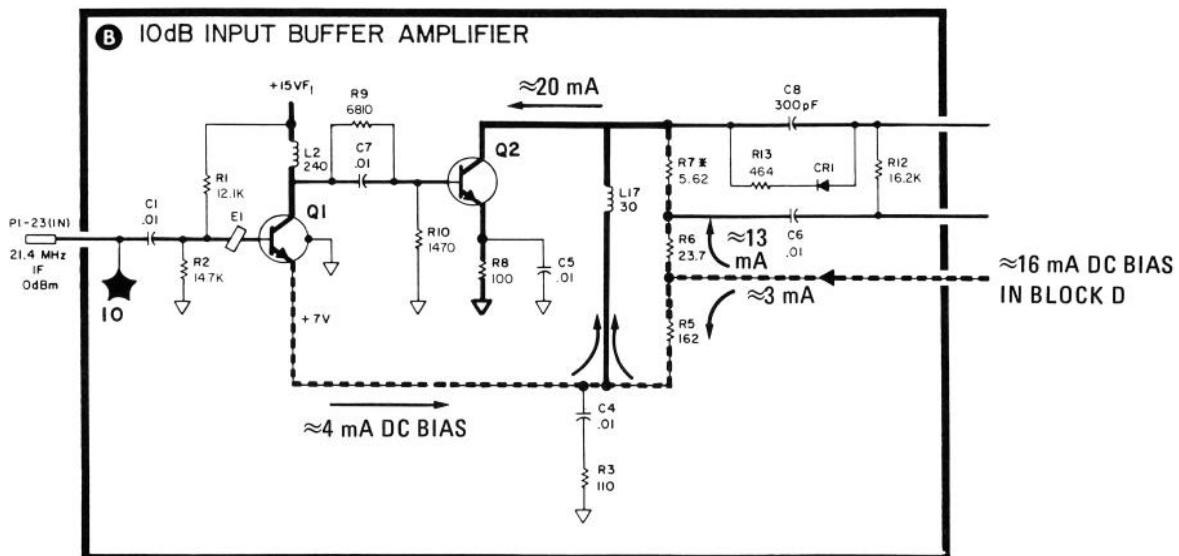
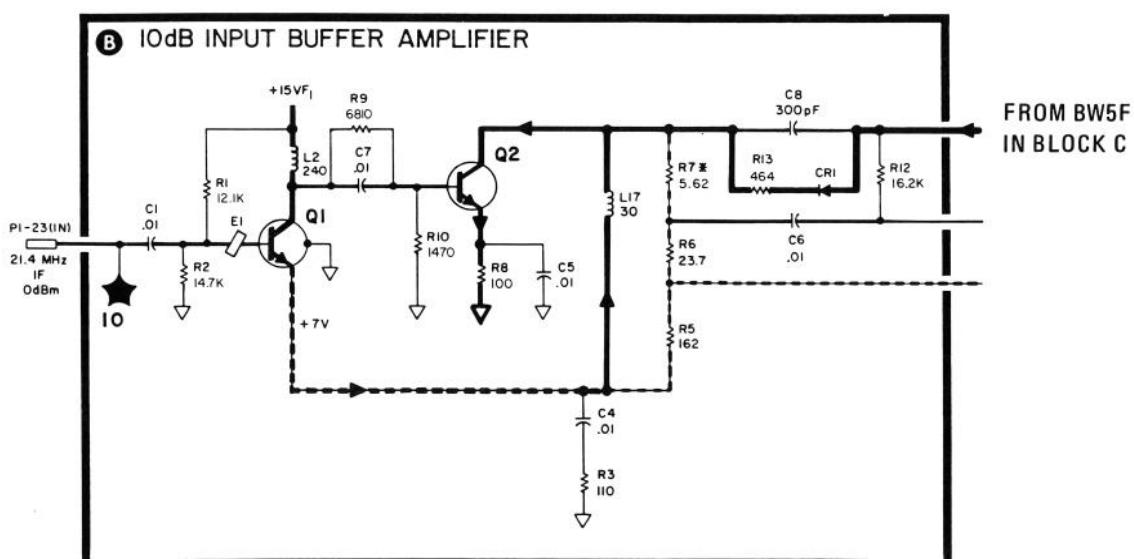

FIGURE 8-35. DC BIAS PATH DURING CRYSTAL POLE OPERATION
FIGURE 8-36. DC BIAS PATH DURING LC POLE OPERATION
Two current paths are used for dc bias in the input buffer amplifier: one for crystal filter poles, another for LC filter poles. When a crystal-filtered bandwidth ( $\leq 30$  kHz) is selected, Q3 (block **(D)**) and Q1 are the sources for the current through Q2 (see Figure 8-35). The base voltage of Q2 is fixed by the divider R9 and R10 while the emitter is fixed by R8. The collector, therefore, becomes a constant-current sink for 20 mA of current supplied by Q1 and Q3. A decrease in the current supplied by Q3 results in increased current through Q1, keeping the current through Q2 constant. If an LC-filtered bandwidth is selected, BW5F (filtered bandwidth control line 5 in block **(C)**) supplies current via CR1 and R13 (see Figure 8-36); Q3 is effectively removed from the circuit.
When an LC filtered bandwidth is selected, BW5F is at +15V; BW7F is at a voltage greater than or equal to +6.8V and supplies bandwidth-determining bias current to CR3. Supply line +VF BIAS is always at +6.8V. Control line BW5F reverse biases CR8 (block (B)), disabling the crystal pole, and forward biases CR1 (block (B)) opening the dc bias path to Q2 (see Figure 8-36). During LC operation, CR6 is reverse biased, keeping C28 out of the circuit. When a crystal filtered bandwidth is selected, BW5F forward biases CR6 and allows C28 to ground the signal path.